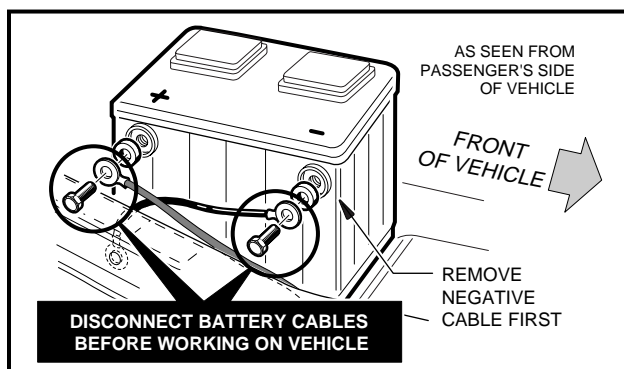

Figure 1-1 Gasoline Vehicle
- DISCONNECT BATTERY CABLES, NEGATIVE (–) FIRST (**FIGURE 1-1, PAGE 1-3**).